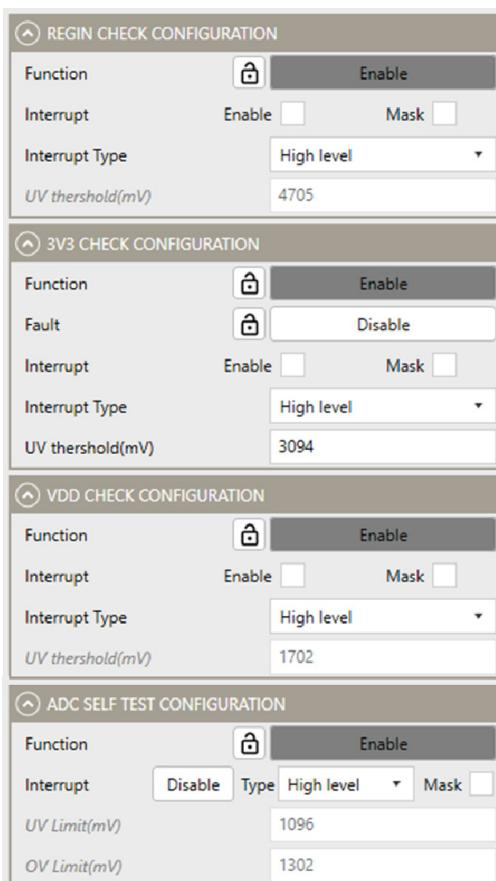

Figure 31: REGIN, 3V3, VDD, ADC Self-Test Check Configuration
- Over-Voltage Threshold (V): The V_{TOP} OV threshold ranges between 0V and 79.98V.
27. Configure the REGIN, 3V3, VDD, and ADC self-test checks (see Figure 31).